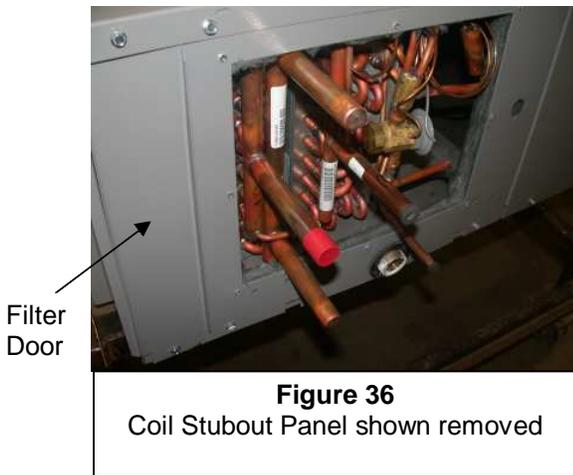

Figure 36
4. Remove filter door and filter (Figure 36 and 37).